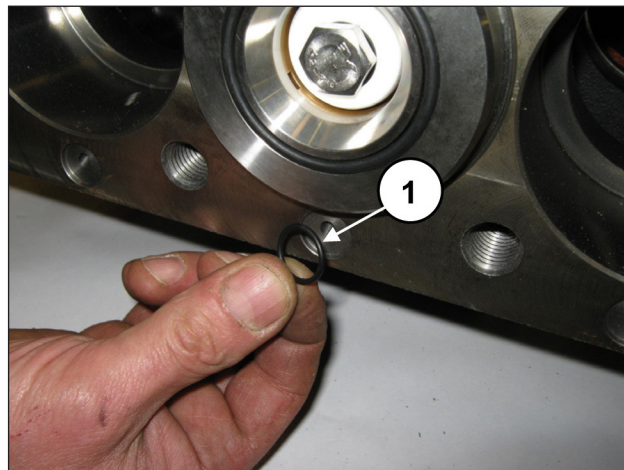

Fig. 167
Fit the 6 front O-rings in the pump casing (pos. ①, Fig. 167).